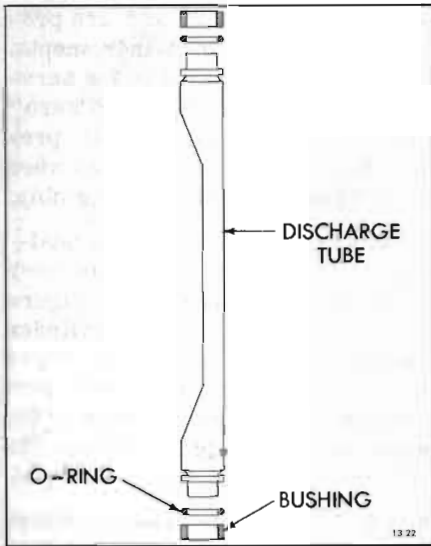

Figure 13-22—Service Replacement Discharge Tube
9. Discharge Tube--The discharge tube is used to connect the discharge cavity in the front head with the discharge port in the rear head. High pressure vapor discharge is channeled via the tube to discharge port. A slightly modified discharge tube is provided to be used as a service replacement tube (see Figure 13-22). The service replacement tube has a reduced end and a built up shoulder to accommodate an "O" ring and bushing. These added parts achieve the necessary sealing of the high pressure vapor within the compressor.